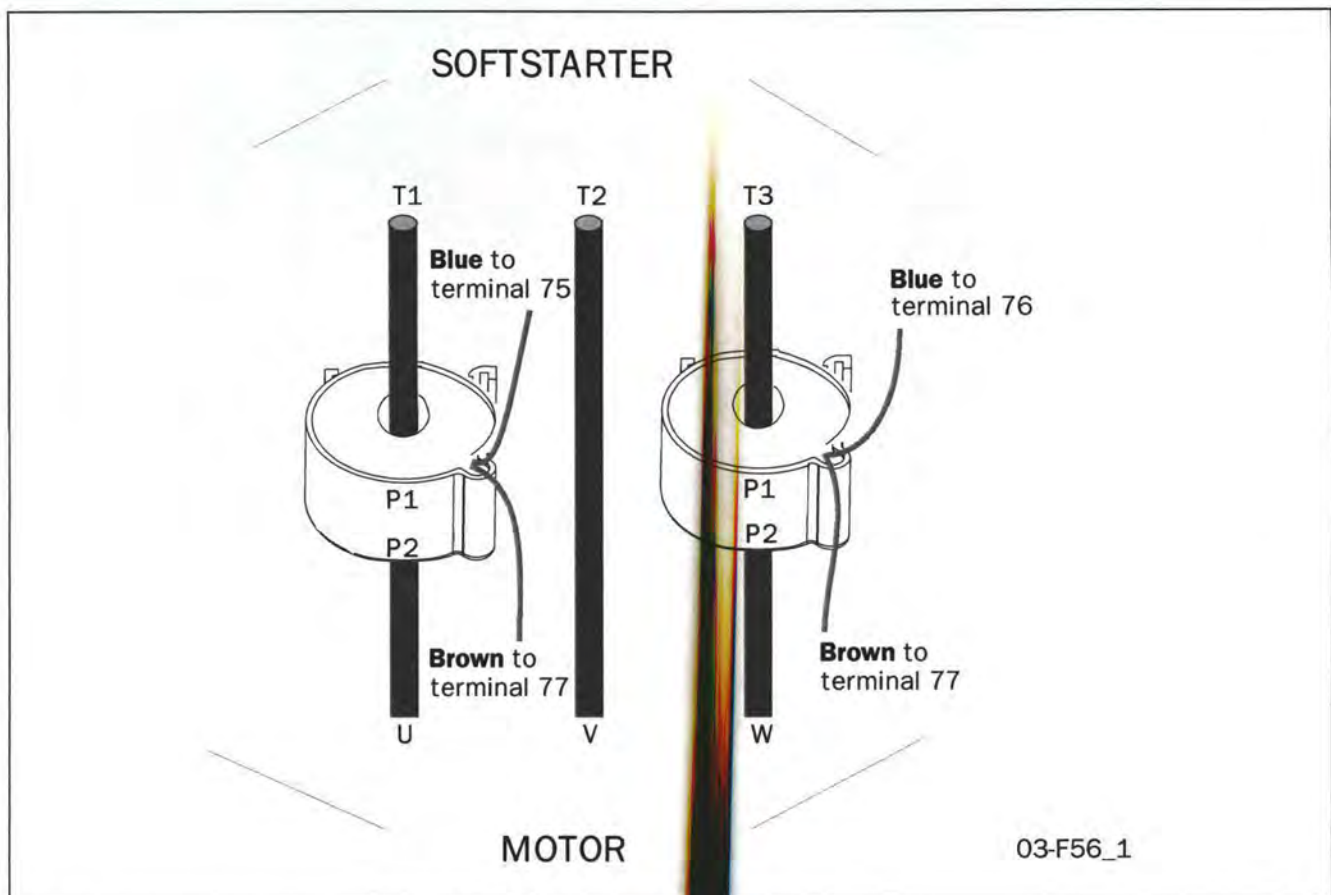
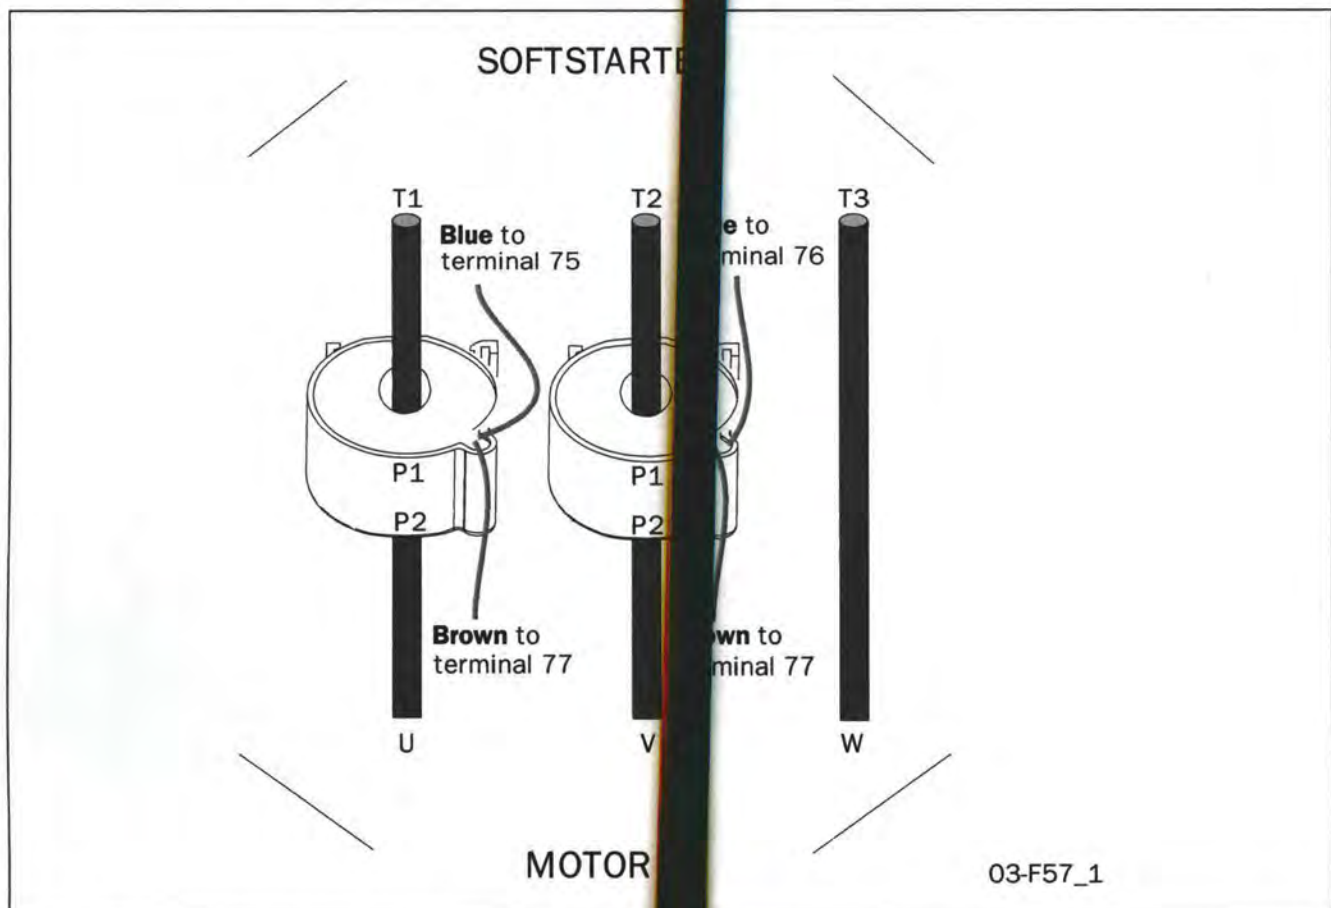

Fig. 44 Current transformer position when Bypass MSF-017 to MSF-050.
Fig. 45 Current transformer position when Bypass MSF-310 to MSF-1400.
**NOTE!** If one like to use the alarm functions, the extended functions or the viewing functions the 2-pcs current transformers must be mounted outside the soft start as shown in Fig. 44 and Fig. 45 on page 45. For this purpose an optional extension cable for the current transformers is available. Code No 01-2020-00.